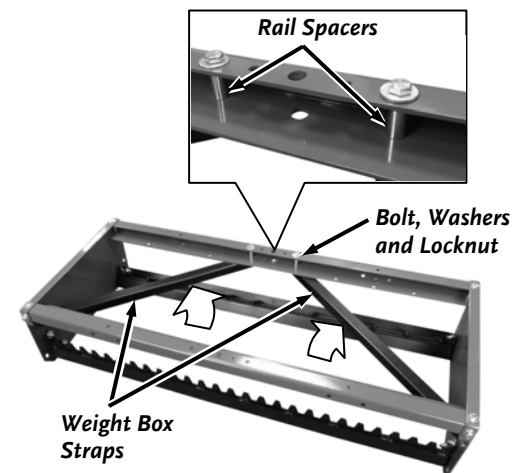

Figure 6
1. Position the Power Grader Frame on a clean flat surface with the Weight Box Straps on top (**Figure 6**).